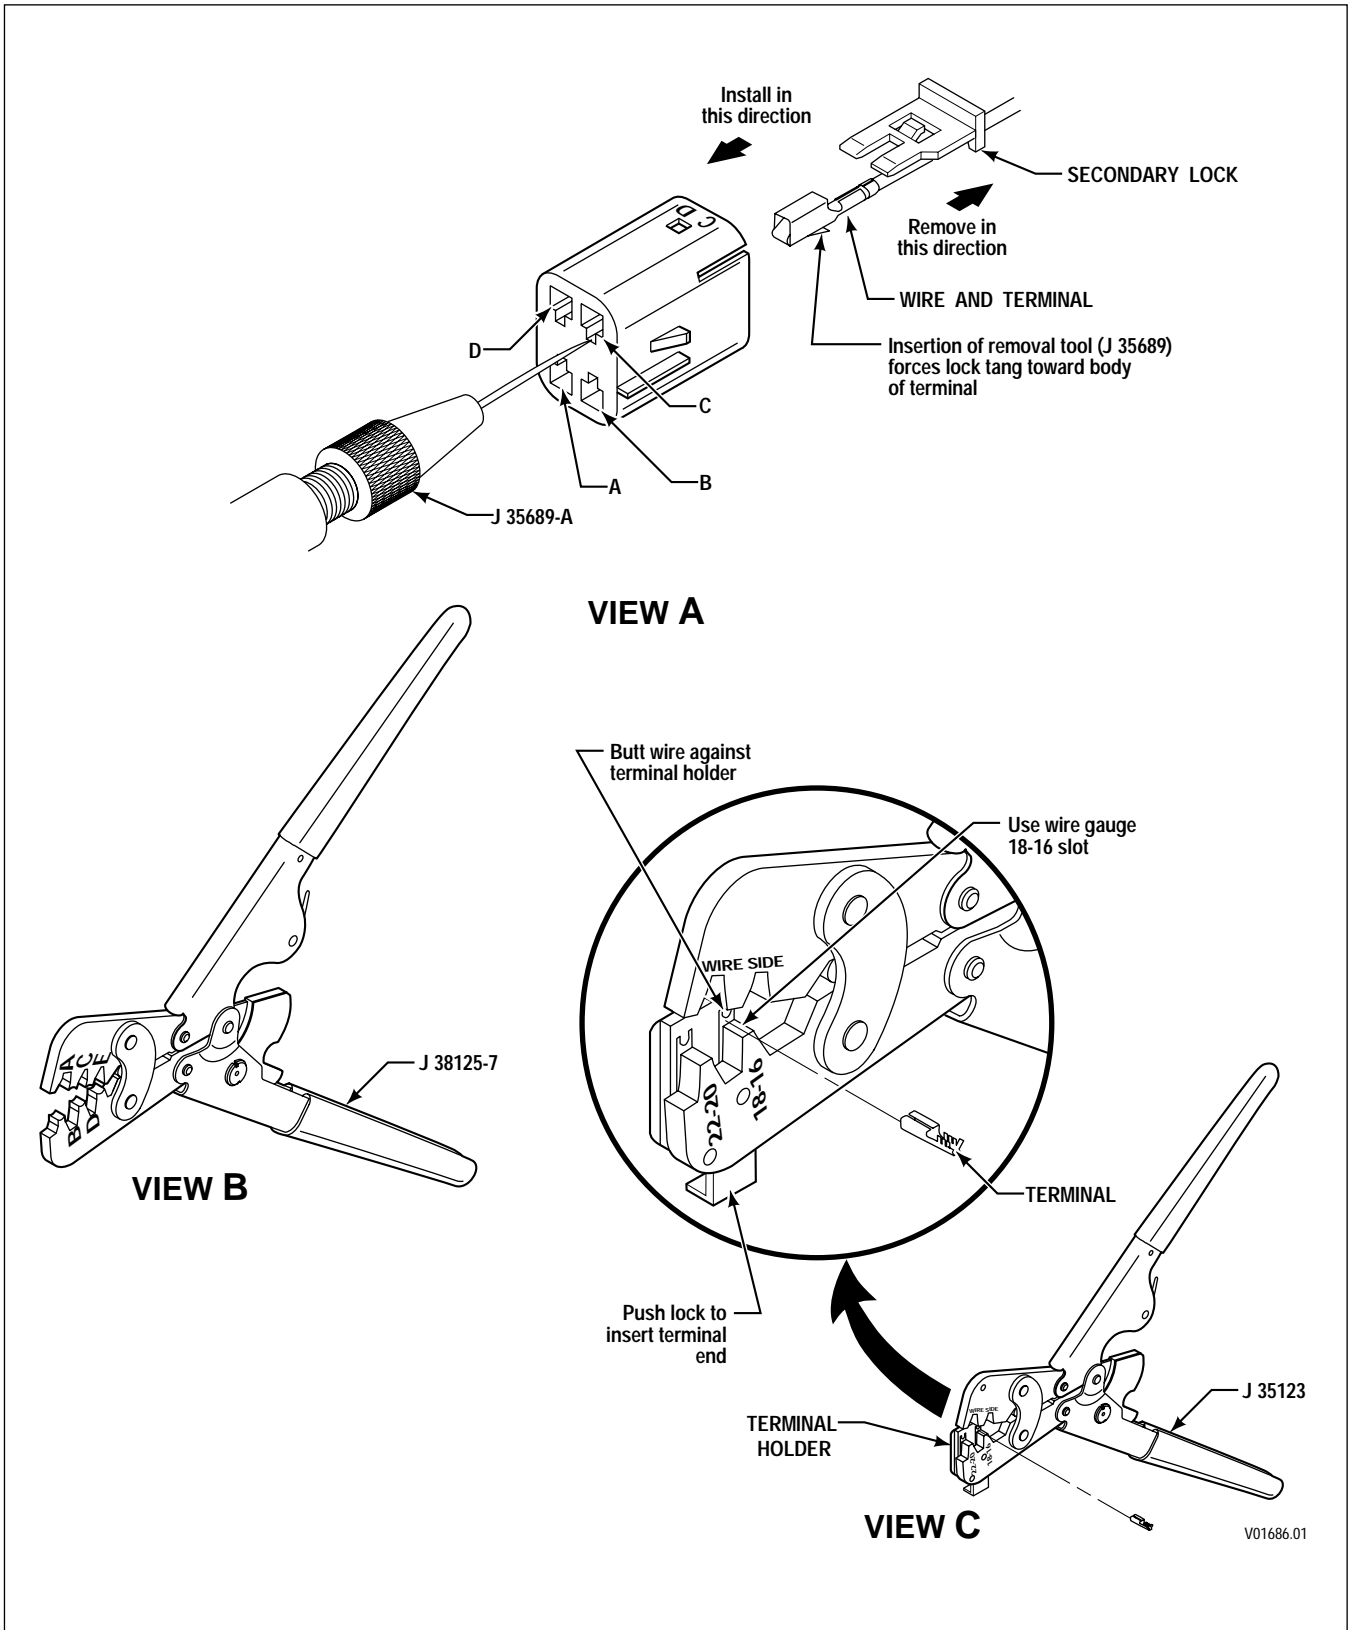

Figure E-3. Packard Metri-Pack 150 Series Connectors — Push-to-Seat (Oil Level Sensor)
2. Insert needle end of terminal remover J 35689-A into the small notch between the connector and the terminal to be removed (Figure E-3, View A). Push the lock tang toward the terminal.
2. Place core crimp portion of terminal on bed of anvil “E” and squeeze crimper enough to keep terminal from dropping (Figure E-3, View B).
2. Insert remover tool J 38125-13 into open (front) end of connector at terminal to be serviced (Figure E-3, View A).